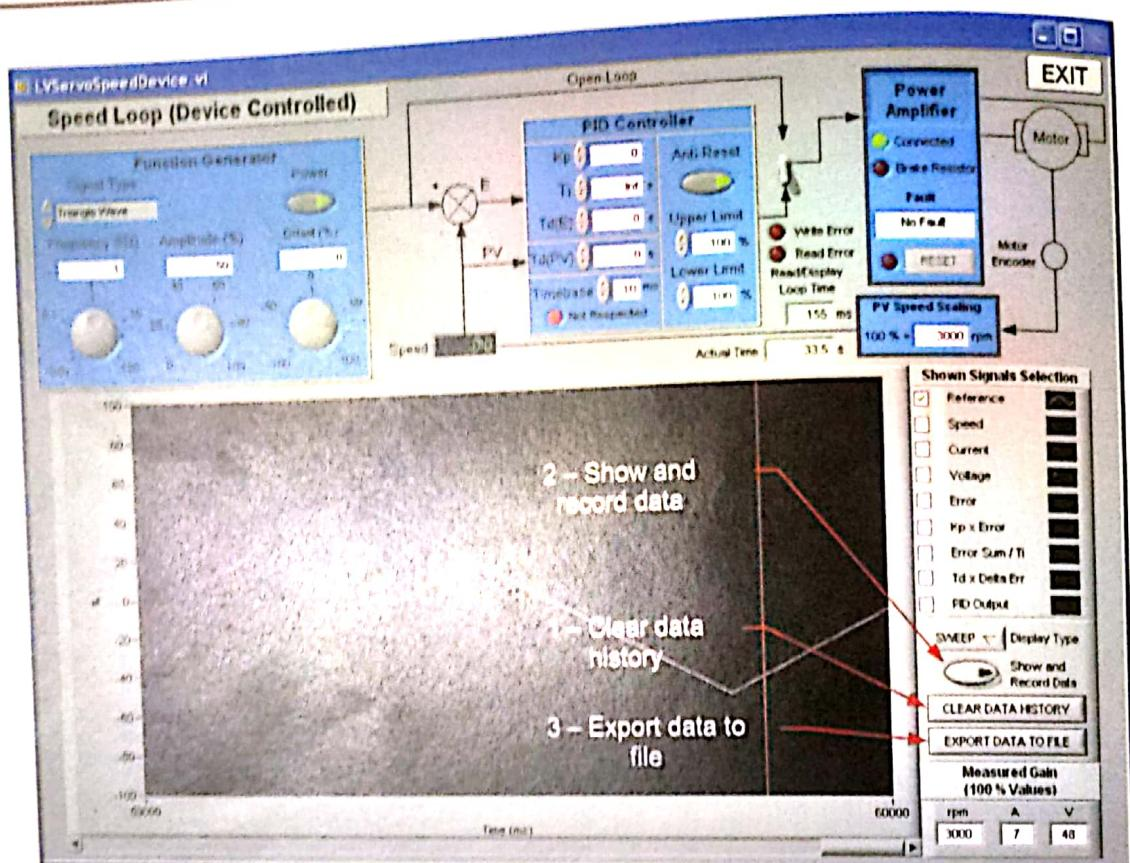

Figure 12. Data-export procedure.
15. Export the data in the relevant file. Following is the complete data-export procedure (strip recorder running). The process is illustrated step-by-step in Figure 12.